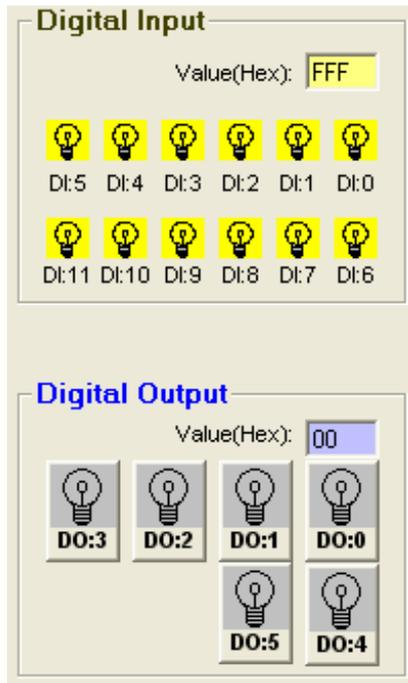

Figure3-9 DI/O status display
**Value:** The current status on each channel of I/O Module. The value of digital I/O modules could be “0” (OFF) or “1” (ON).
**Mode:** Describes the I/O types of the specific module. In addition to monitor the current DI/DO status, the Windows Utility offers a graphical operating interface as Figure3-9. You can read the Digital input status through the change of the indicator icons. Oppositely, you can write the digital output status through clicking the indicator icons.